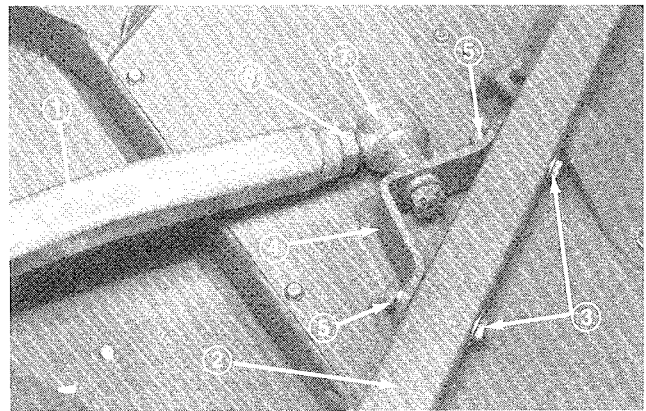

Figure 11
4. Secure ball joint mount to caster arm (Fig. 11) with two cap screws (7/16 - 14 x 3"), flatwasher (15/32 I.D. x 59/64 in. O.D.), and nuts (7/16 - 14). Head of cap screw and the large flatwasher must be on outside of caster arm.
5. Tighten large jam nut against front of right push arm (Fig. 11). When tightening jam nut, hold ball joint straight to permit proper oscillation during raising and lowering of the cutting unit.